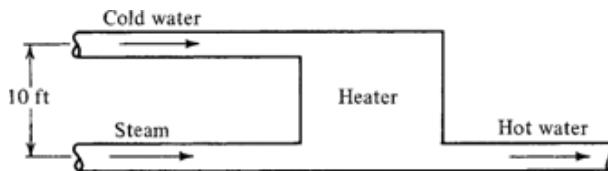

Figure P2.14
2.14 Cold water with an enthalpy of 8 Btu/lbm enters a heater at the rate of 5 lbm/sec with a velocity of 10 ft/sec and at a potential of 10 ft with respect to the other connections shown in Figure P2.14. Steam enters at the rate of 1 lbm/sec with a velocity of 50 ft/sec and an enthalpy of 1350 Btu/lbm. These two streams mix in the heater, and hot water emerges with an enthalpy of 168 Btu/lbm and a velocity of 12 ft/sec.